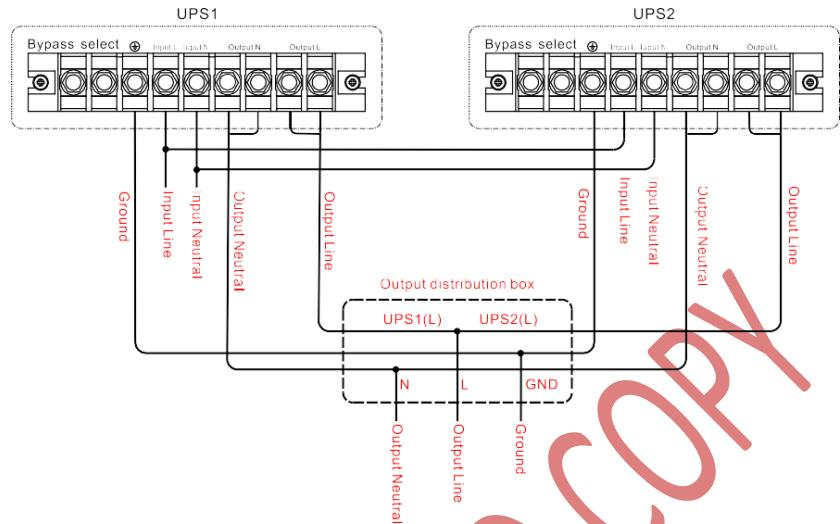
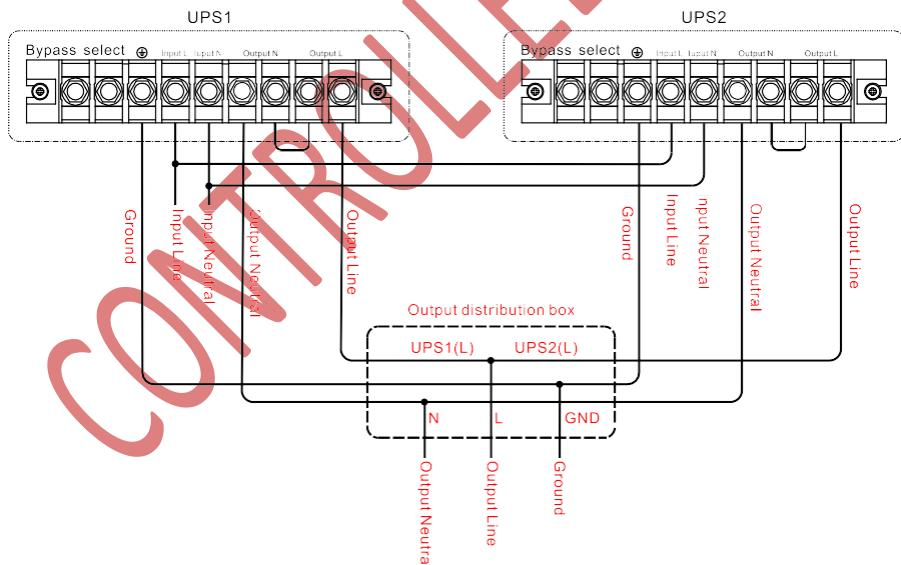

Figure3-16 Wiring diagram of UPS parallel system (120Vac)
Figure3-17 Wiring diagram of UPS parallel system (208Vac/220Vac/230Vac/240Vac)
Step 2 Connect the AC output of each UPS with the output distribution box, as shown in Figure3-16 and Figure3-17.